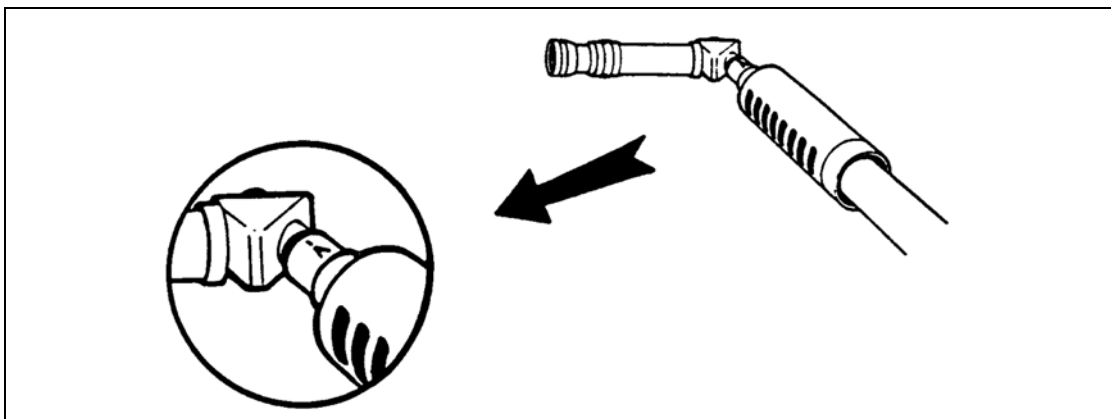

Figure B-38. Mark facing up, telescope to the left.
- (6) Rotate only the telescope 180 degrees so that the eyepiece faces left. Ensure that the adapter's mark "A" faces up (Figure B-38, page B-26).
- (7) Record the AZ and EL coordinates in the LEFT AIM-POINT COORDINATES item in the *TEST 1* section of the scoresheet.
- (8) Plot the left aim point on scoring grid 1. *TEST 1* is now complete. *TEST 2* is like *TEST 1* except that the adapter's mark "B" faces up.
- (9) Rotate the adapter until the "B" faces up.
- (10) Rotate the telescope to the right. Ensure "B" still faces up.
- (11) Record right aim point in data section 2.
- (12) Plot right aim point on scoring grid 2.
- (13) Rotate telescope to the left. Ensure that "B" faces up.
- (14) Record aim point in the LEFT AIM-POINT COORDINATES item in the *TEST 2* section of the scoresheet.
- (15) Plot left aim point on scoring grid 2. You have now tested one telescope. Continue until you have tested all of the telescopes in the battalion.